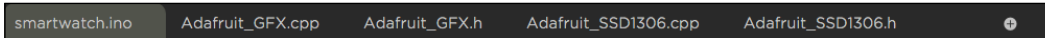
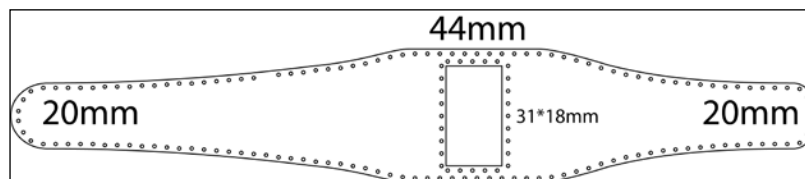

Figure 9.3: Manually adding libraries to the web IDE
Figure 9.4: The template design for the watch strap
2. Next, add a new tab by pressing the + sign at the top right corner, as shown in *Figure 9.3*, which will open up a new tab for you.
Now it's time to move on to the design of the watch; as mentioned before, you can incorporate any kind of sensors you like into the design of your watch, but take into account the size of any component you add. In order to turn your components into a watch, we will base the design on the template shown in *Figure 9.3*. Ideally use this template to cut the shape out of a 1 mm thick plastic material. This can be any material as long as it's sturdy enough but has some flexibility to it. The plastic material I used, also shown in *Figure 9.4*, is a fairly common 1 mm plastic material found in arts and crafts stores.
As you can see in *Figure 9.4*, the edges are covered with small holes. The idea is to use these holes later on as guidance once we sew our watch together. You can cut the template by hand since 1 mm plastic is fairly easy to cut with a pair of normal scissors. But, once again, if you do have access to a laser cutter, it would be the preferred choice since the spacing between the holes can be hard to achieve by hand. There are specialized watch-making tools for making holes like this, but if this is the only watch you plan to make, a nail and a hammer will do just fine.